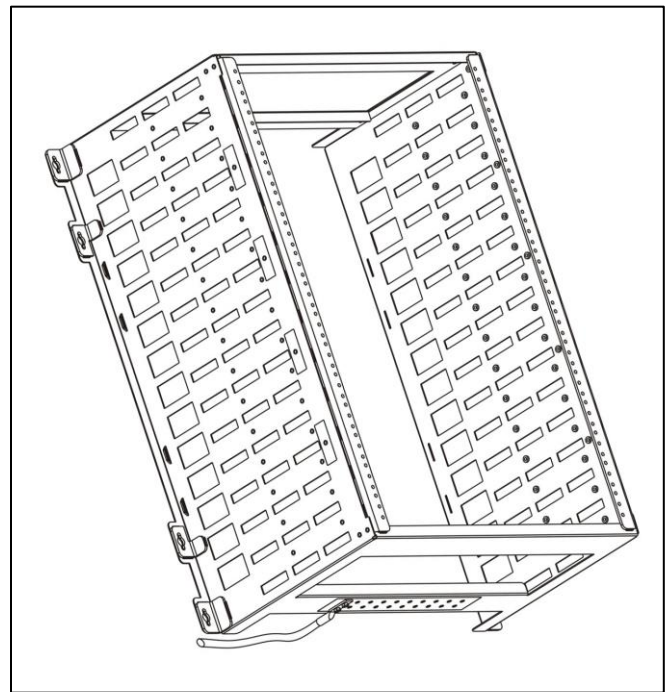

Figure 7. Frame grounding example
- ⑤ Before attempting to fasten the mounting frame to the wall, insert a screw into the top pilot hole on either the left or right side. Partially thread the screw into the hole, leaving the screw head approximately 1/4" from the surface.
- ⑥ Hold the mounting frame against the wall while resting the cutout of the bracket on the installed screw. Align the other nine mounting holes and install a screw in each hole. Tighten all ten (10) screws securely.
- ① Locate the ten (10) pairs of pre-installed grounding screws with lock washers on the crossbar of the frame. The grounding screws are 10-32 x 3/8" on 5/8" centers.
- ② Install a dual ground lug (customer provided) with holes on 5/8" centers beneath the included screws and washers on one pair of grounding holes. Tighten the screws to fasten the lug to the mounting frame. The example in Figure 7 illustrates the frame positioned with grounding screws facing downward.
- ③ Connect a ground wire of appropriate gauge to the ground lug and attach the other end of the wire to a bonded ground point, per local procedures for network equipment.